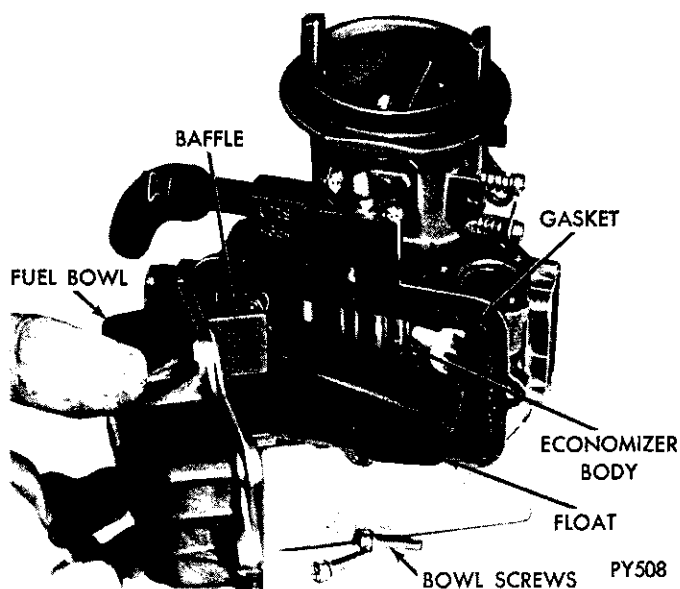
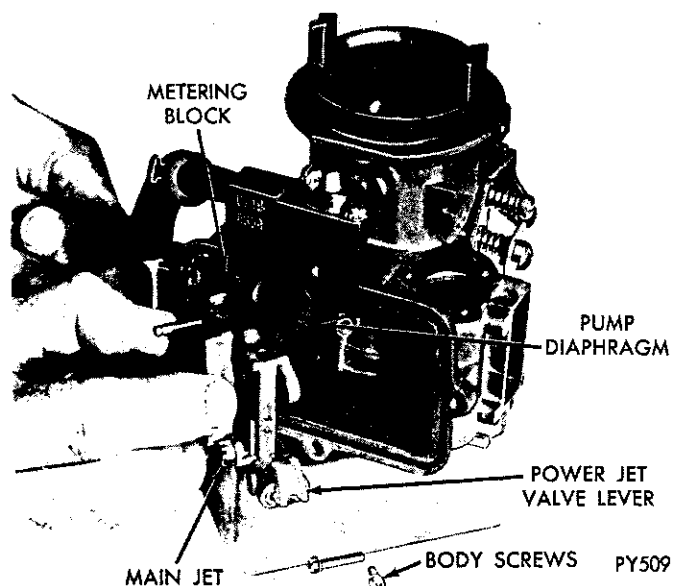

Fig. 6—Removing or Installing Fuel Bowl
Fig. 7—Removing or Installing Metering Block
- (7) Remove fuel bowl attaching screws, then remove fuel bowl, baffle and gasket, (Fig. 6). Slide baffle out of bowl. Discard gasket. Remove float damper spring.
- (8) Using a suitable tool, remove float retaining clip, then slide float off fulcrum pin.
- (9) Remove screws that attach metering block, then remove metering block (Fig. 7).
- (8) Turn carburetor with bowl opening up then position metering block in carburetor, (Fig. 7). Install screws and tighten securely.
- (9) Engage choke link with choke lever and fast idle cam. Place cam in position, then install retaining screw. Tighten screw securely.
- (10) Slide float into position over fulcrum pin and secure with retainer clip.
- (11) Install fuel inlet needle, seat and new gasket. Tighten seat securely. Install float damper spring. Check float setting as follows: